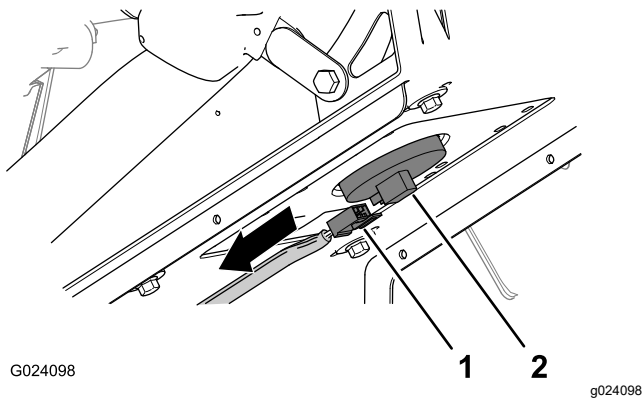

Figure 34
1. Remove the 2-socket connector of the machine wire harness that connects to the seat-switch connector (Figure 34).